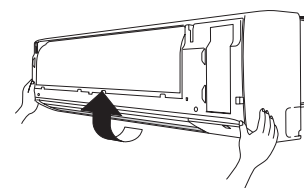

Fig. 2-210
- (6) Lift up the grille in the direction shown by the arrow and pull the grille towards you to remove it. (Fig. 2-210)